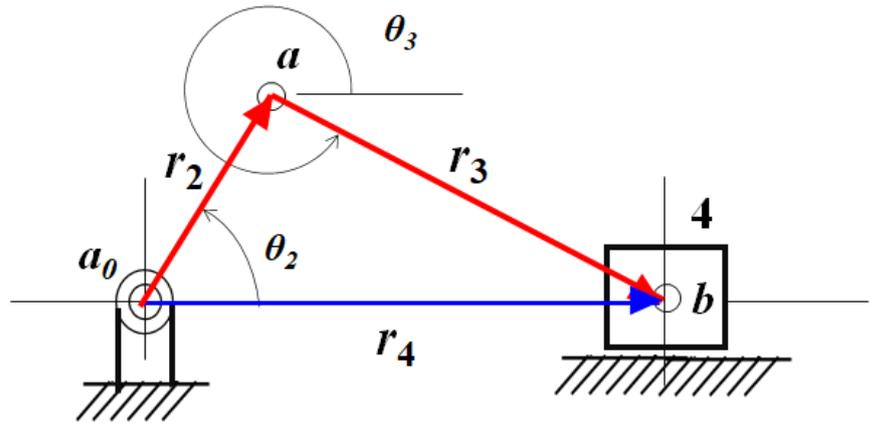

Fig. 2 Slider-crank mechanism
2. Determine the mobility (number of degrees of freedom) of the following mechanical devices shown in Fig.2. (15%)
2. Consider the slider-crank mechanism shown in Fig. 2, derive the equations for the displacement ( $r_4$ ), velocity ( $v_4$ ), and acceleration ( $a_4$ ) of the slider. ( $\omega_2$  is constant)